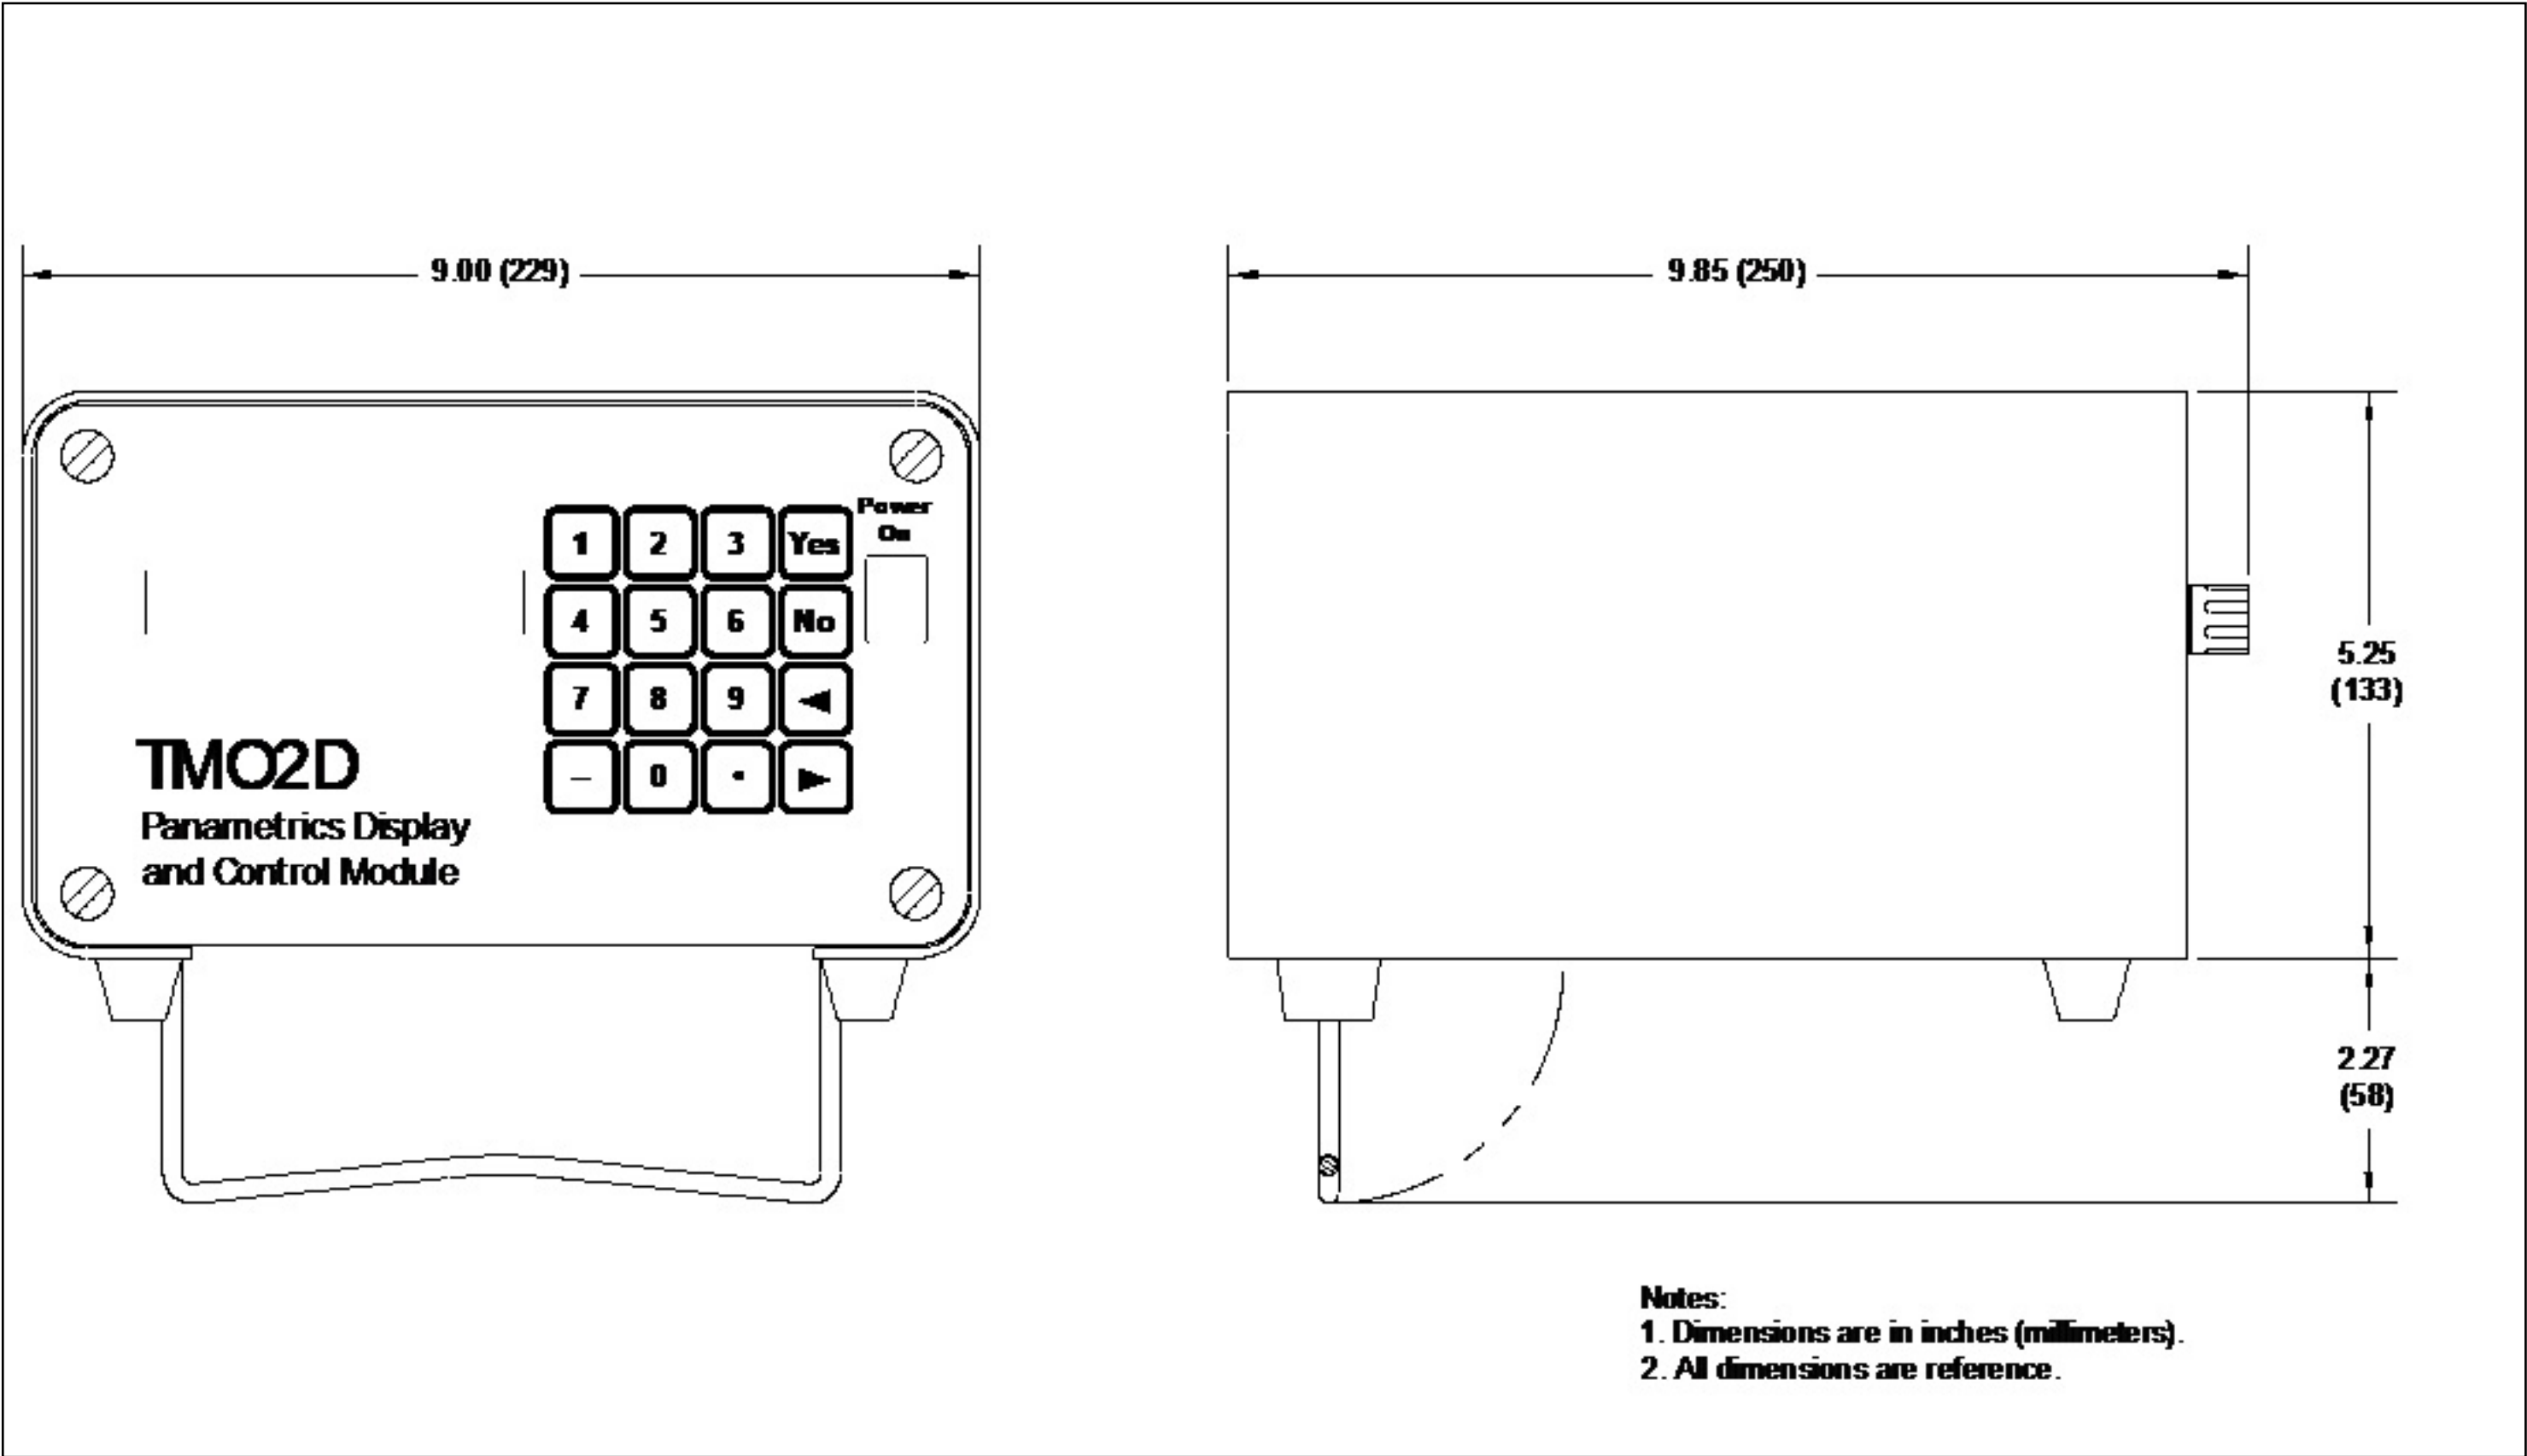

Figure 17: Bench Mount Outline (ref. dwg #712-221)
- *Figure 17:* Bench Mount Outline